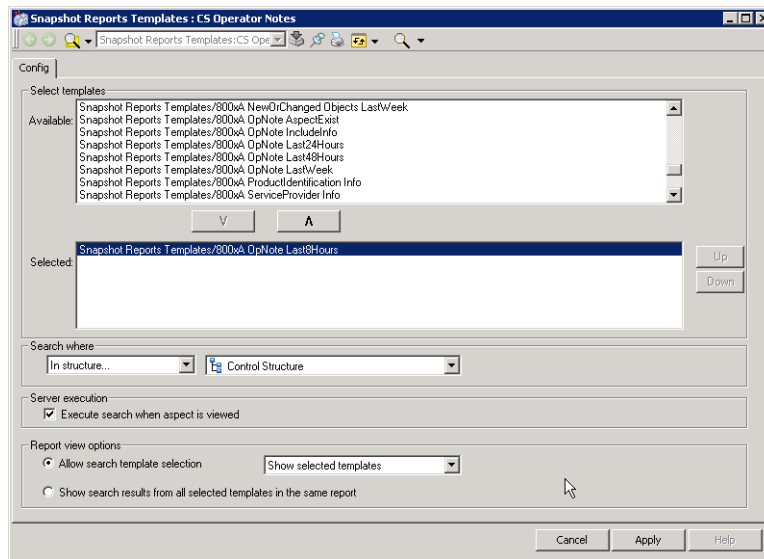

Figure 24. Choose a template to include
3. Select one of the presented Snapshot Report templates as shown in Figure 24.